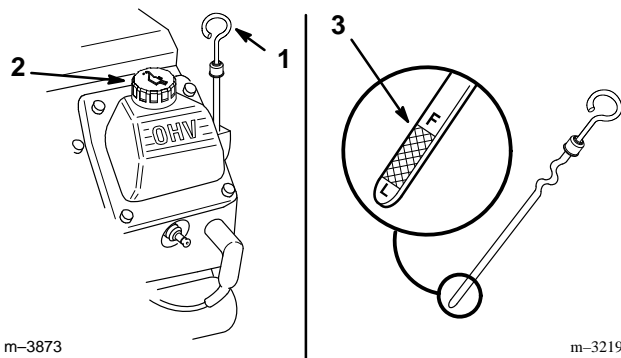

Figure 5
2. Clean around the oil dipstick (Fig. 5) so dirt cannot fall into the filler hole and damage the engine.
3. Pull out the oil dipstick and wipe the metal end clean (Fig. 5).
4. Slide the oil dipstick fully into the filler tube (Fig. 5). Pull the dipstick out and look at the metal end. If oil level is low, slowly pour only enough oil into the filler tube to raise the level to the “FULL” mark.